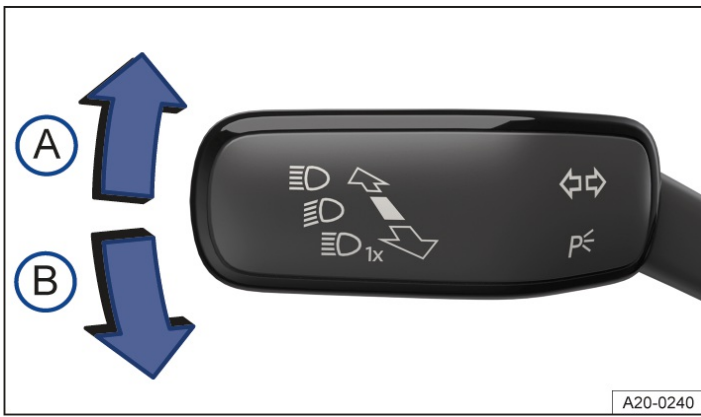

Fig. 1 On the left side of the steering column: turn signal and high beam lever.
2. Move the turn signal and high beam lever from the center position to the required position → *fig. 1*.